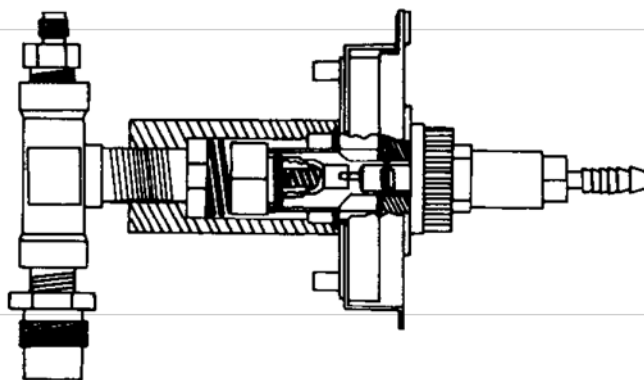

Figure 18
7. O-ring forms gas-tight seal around the nose of Diamond III adapter when the adapter is inserted. Gas is forced to go through the adapter without leaking around the nose. See Figure 18.